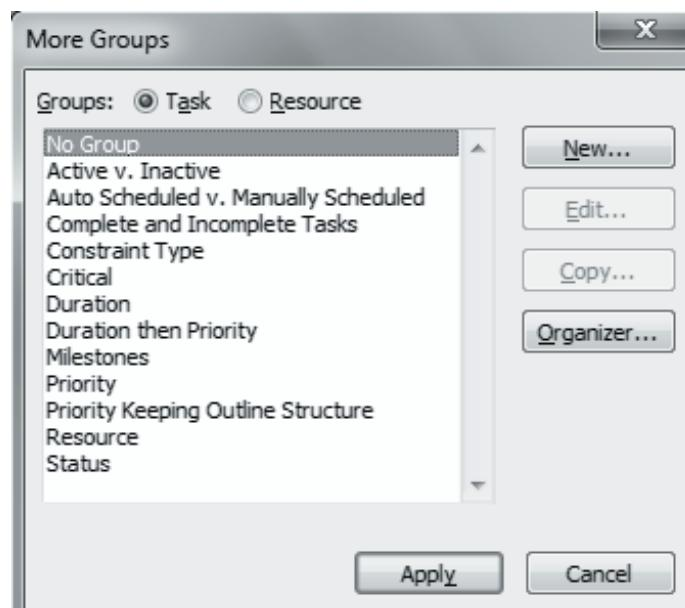

Figure 10.10: Creating Custom Group Using More Groups Dialog Box
1. Open a project in any view, on the **View** tab under **Data** area on the **Ribbon**, click **Group by** drop-down list and click **More Groups...** to display the **More Groups** dialog box as shown in figure 10.10.